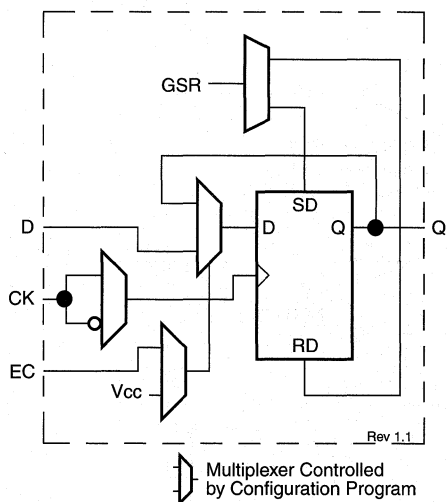

Figure 6: IOB Flip-Flop/Latch Functional Block Diagram
The input signal to the IOB can be configured to either go directly to the routing channels (via I1 and I2 in Figure 5) or to the input register. The input register can be programmed as either an edge-triggered flip-flop or a level-sensitive latch. The functionality of this register is shown in Table 3, and a simplified block diagram of the register can be seen in Figure 6.
The register choice is made by placing the appropriate library symbol. For example, IFD is the basic input flip-flop (rising edge triggered), and ILD is the basic input latch (transparent-High). Variations with inverted clocks are also available. The clock signal inverter is also shown in Figure 6 on the CK line.
As with the CLB registers, the GSR signal can be used to set or clear the input and output registers, depending on the value of the INIT attribute or property. The two flip-flops can be individually configured to set or clear on reset and after configuration. Other than the global GSR net, no user-controlled set/reset signal is available to the I/O flip-flops (see Figure 6). The choice of set or reset applies to both the
The input and output flip-flops in each IOB have a common clock enable input (EC), which through configuration, can be activated individually (see EC signal in Figure 6) for the input or output flip-flop, or both. This clock enable operates exactly like the EC signal on the Spartan Series CLB. It cannot be inverted within the IOB.